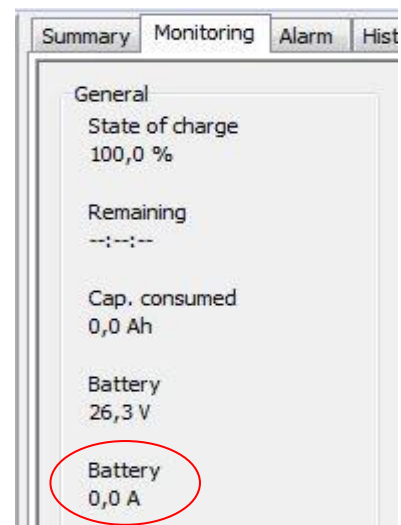

Figure 3-9: Checking zero current
- 6 Verify on the MLI Ultra monitoring page that there is no current flow. See figure 3-9.